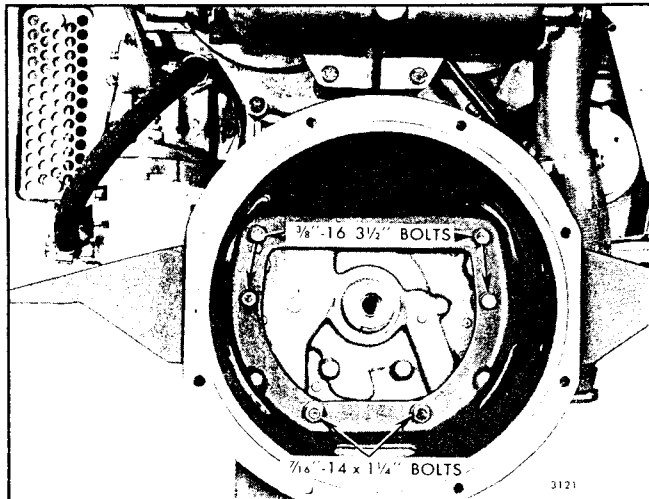

Fig. 5 - Location of Power Take-Off Adaptor to Engine Bolts
11. Remove the six bolts and lock washers securing the power take-off adaptor to the engine front cover (Fig. 5).
3. Refer to Fig. 5 and install the six bolts and lock washers. Tighten the 3/8" -16 bolts to 30-35 lb-ft torque and the 7/16" -14 bolts to 46-50 lb-ft torque.